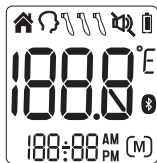

Fig. 1
1. Rotate the probe to the desired position; the display will activate and run a self-test; all symbols on the display will momentarily appear, Fig. 1. If the sensor is already in the desired position, press the **POWER** button to turn the thermometer on.